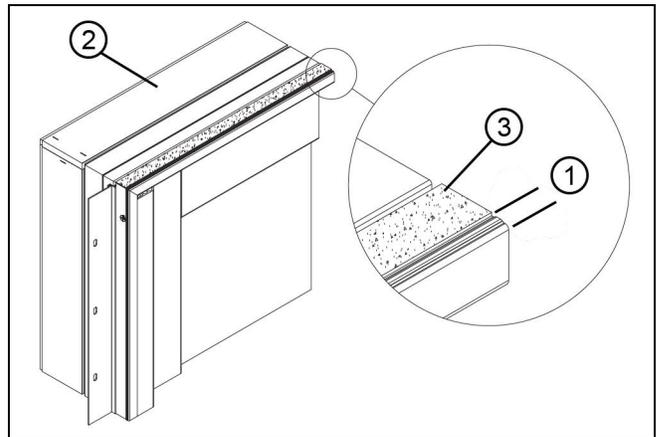

Figure 40
3. Apply one sided mull tape the entire length of door head jamb ensuring it is located 1/4" (6) from the exterior edge of the Ultrex frame. See Figure 40.